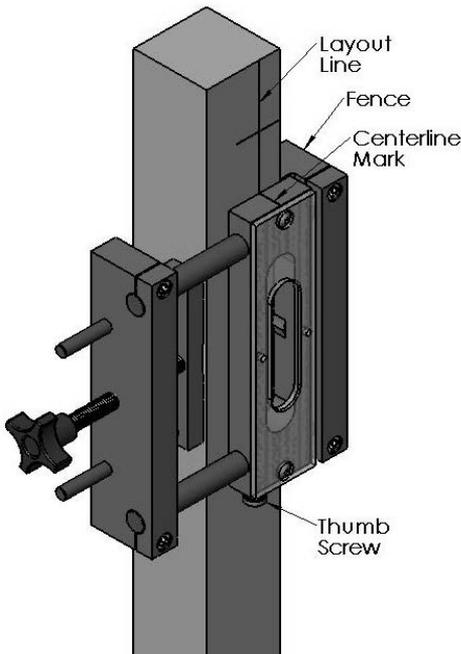

Fig. 14: Align centerline mark with first layout line.
Step 4. Setting up the jig will require centering the template over the layout lines. Referring to Fig. 14, hold the jig's **fence** against your stock. Align the **centerline mark** on the side of the jig with the first **layout line** as shown. When the **centerline mark** and the **layout line** coincide, turn the **thumb screw** to lock the template in place.